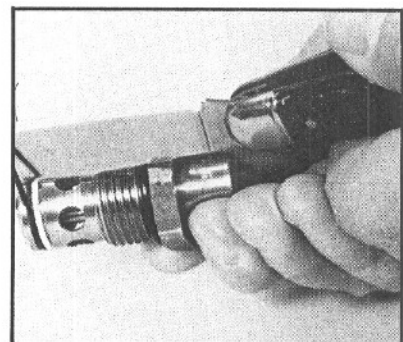

Figure 52
18. Remove and discard the two relief valve O-rings (9B and 9D) and the Teflon seal ring (9C) from the relief valve (9A) (FIG. 52).